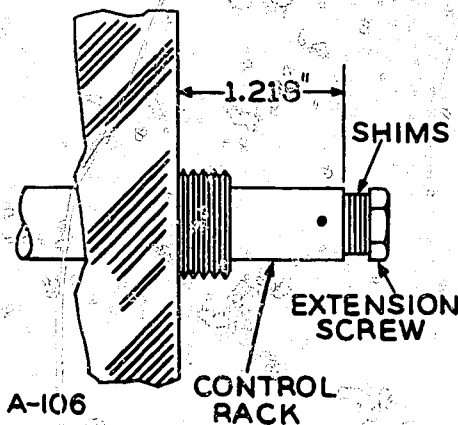

Figure 3.
19. Position the injection pump control rack with the securing device for a control rack extension at the right hand side of 1.218" to the unshimmed portion of the rack, do not include shims or screw head. (See Figure 3.)